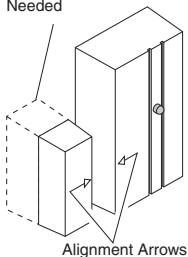

Figure 4
5. **Mount sensor.** Use either screws or double sided tape to mount push button. **IMPORTANT:** The maximum gap between sensor and magnet is 1/2" (13 mm) (see Figure 3). The arrows located on the face of each component must be aligned and facing toward each other (see Figure 4). The magnet must be beside the sensor. *Note:* If the magnet is recessed, use spacer to ensure proper alignment (see Figure 4).